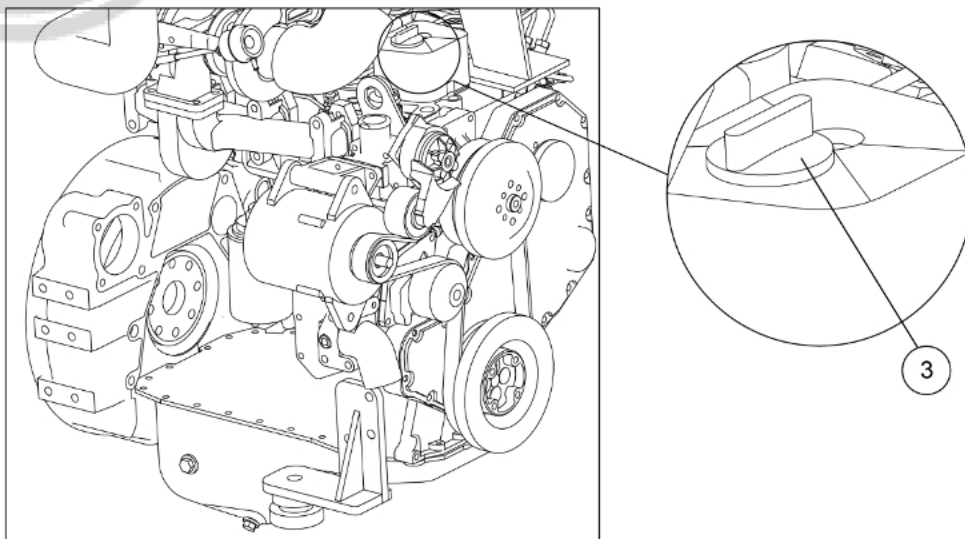

Figure 6-14 Oil filler
(2) Oil filter
Step 6: Unscrew the oil filler cap (3), and add oil. The amount of oil is about 7Liter, as shown in Figure 6-14;